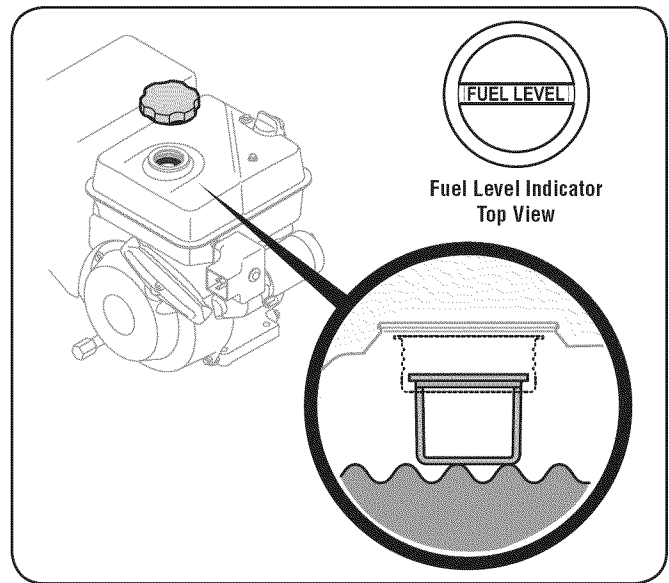

Figure 3-4
**NOTE:** On tanks with a fuel level indicator, fill the tank until the fuel reaches the "fuel full" indicator mark. See Fig. 3-4. All other tanks, fill tank until the fuel reaches a 1/2 inch below the bottom of the filler neck to allow space for fuel expansion. Be careful not to overfill.